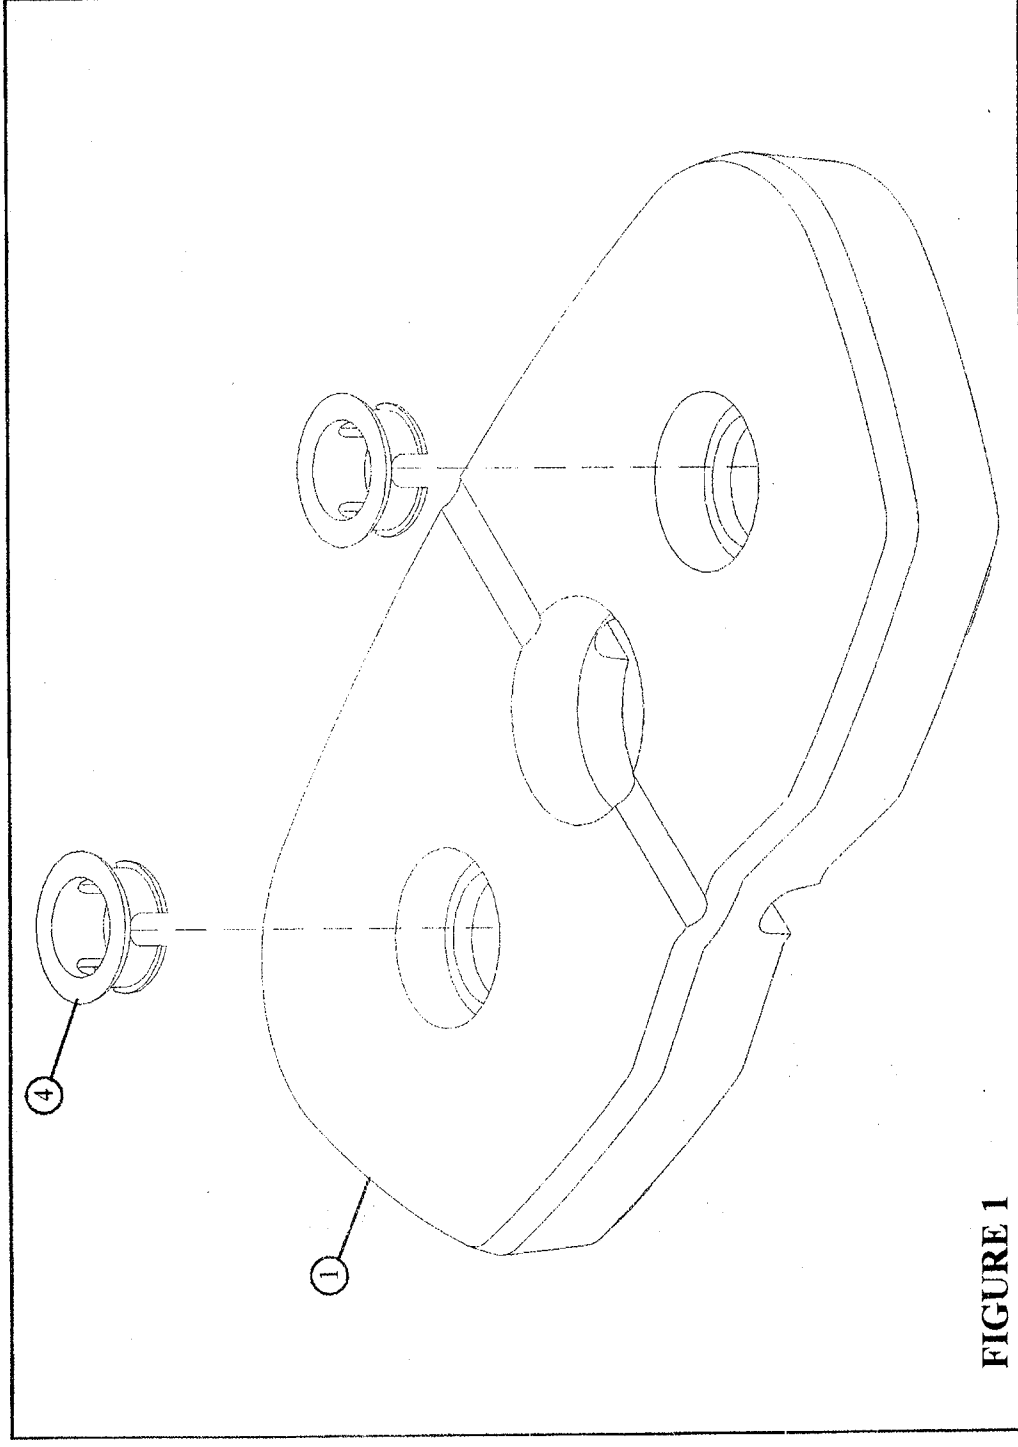

FIGURE 1
- Insert two WEIGHT PLATE BUSHINGS (4) into each of the five WEIGHT PLATES (1) as shown in FIGURE 1.